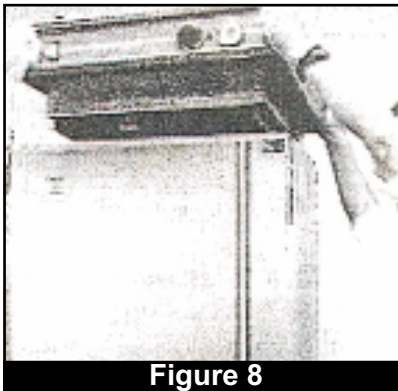

Figure 8
3. Using two people, lift the top mounted heating module straight up and off of the cabinet (Fig. 8)